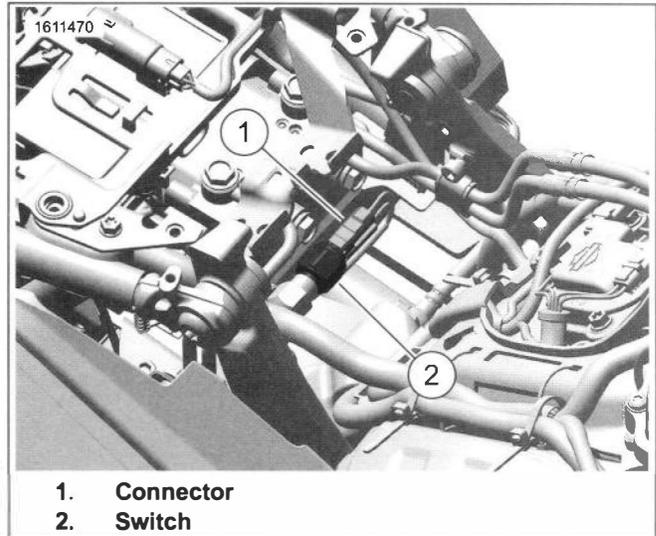

Figure 8-46. Rear Stop Lamp Switch
1. See Figure 8-46. Remove connector (1).
2. Remove switch (2).
2. See Figure 8-46. Install switch (2). Tighten.